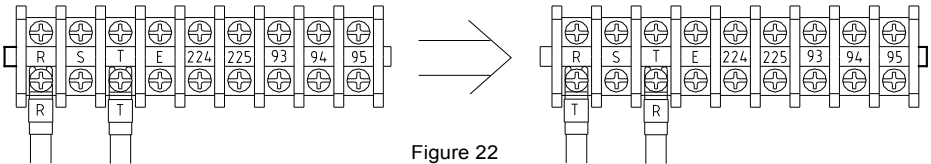

Figure 22
- 1 \ Please refer to figure 19,20,21 to open the electric cabinet and to switch the R/T power wires. (See Figure 22)